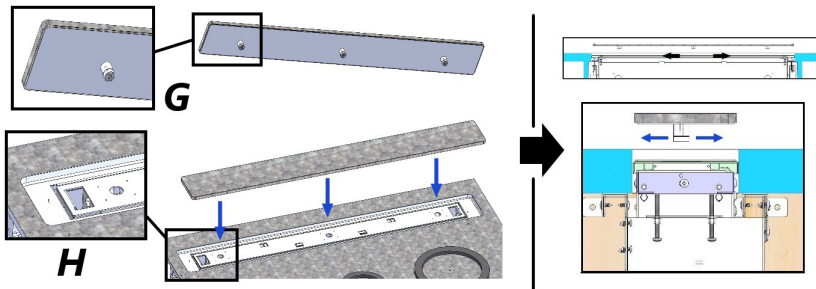

Fig. 16.2
To determine the correct line-up of the downdraft, place the part (glued in the previous step) inside the rectangular niche, making the magnets (G) coincide with the seat (H) and check that the two surfaces are perfectly at the same level (fig. 16.2).